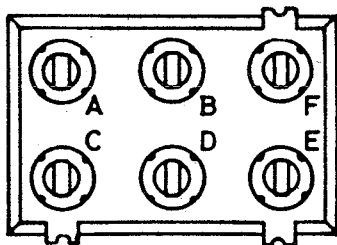

FIG. 4
6. Increase the output level of Sweep Generator in 10 dB, adjust (A) core of T 203 to obtain the waveform as in FIG. 4.